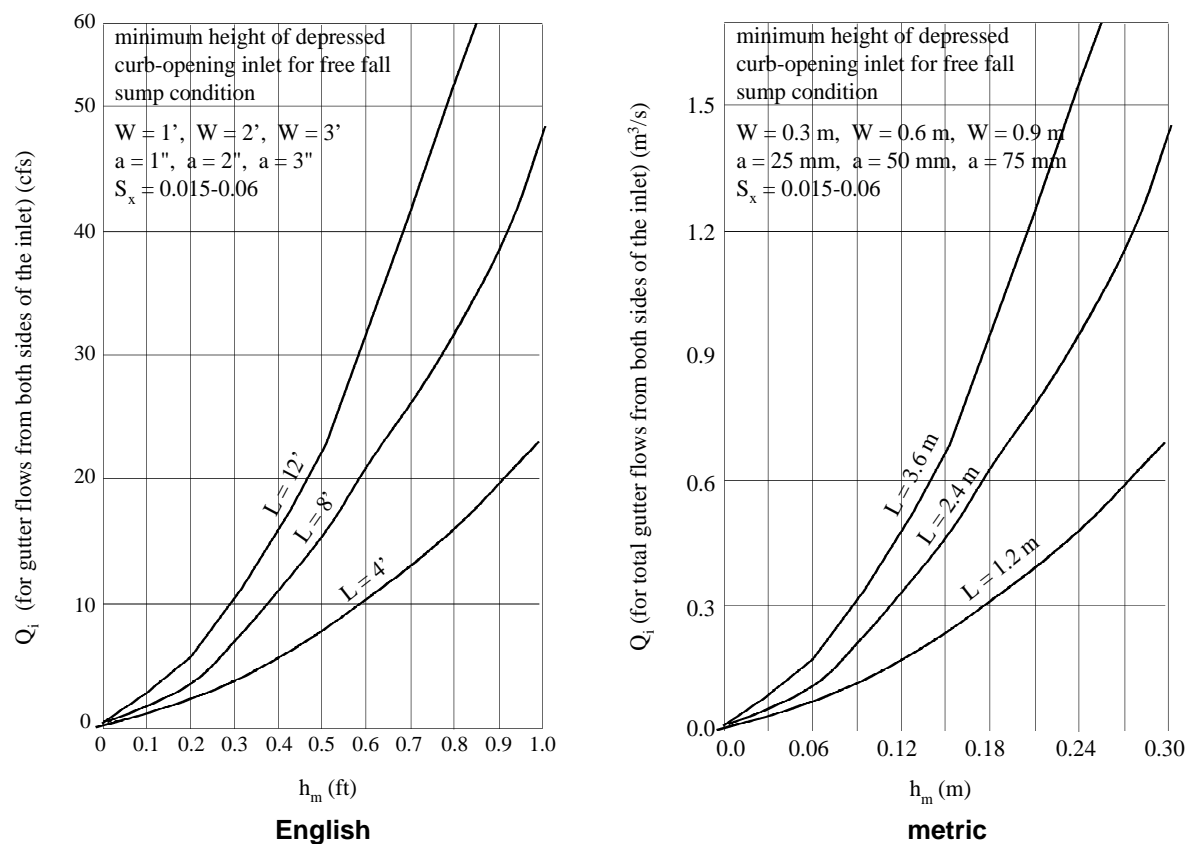

Figure 6: Height of curb opening needed for intake to operate as a weir.³
Step 1 is to decide whether the intake operates as an orifice (intake submerged) or a weir (intake not submerged) for the design storm (assuming the intake is a curb opening type). Figure 6 on the next page is used to make this decision. On the left side of Figure 6, find the total gutter flow at the intake (total Q from both directions). From Q , go horizontally to intercept the length of the intake opening (L_i). Then go down to read the height of the water, h_m , at the bottom of the chart. If the water is over 0.5 feet (0.15 meters) deep, the intake opening is submerged and the intake is operating as an orifice.